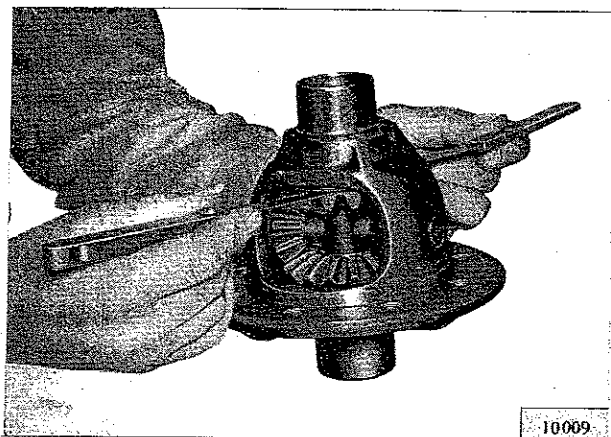

FIG. N-26—CHECKING SIDE GEAR CLEARANCE
- With the differential positioned as shown in Fig. N-26, tap the differential lightly on a flat surface so the differential gears settle into proper position.